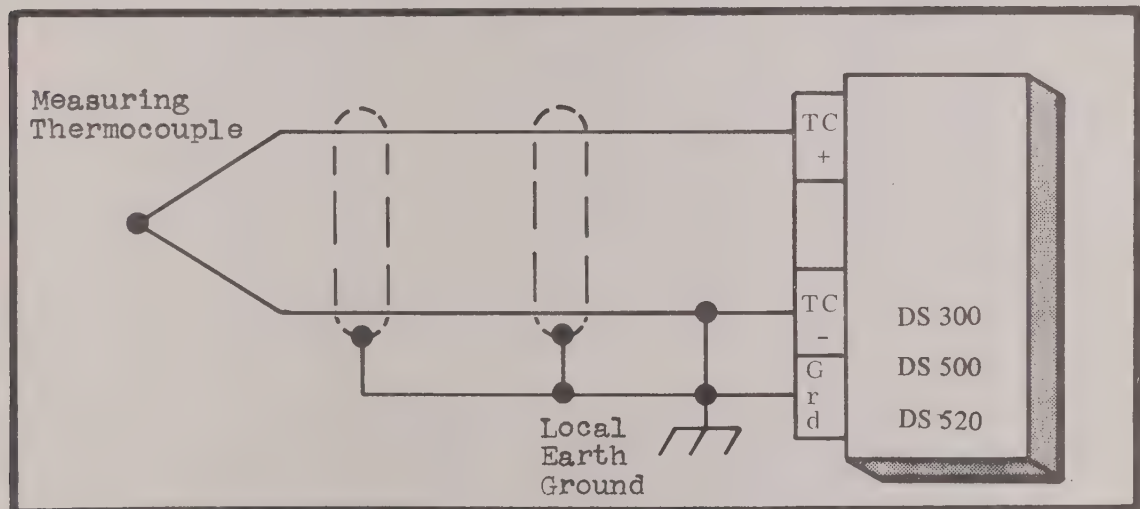

FIG. 2-2 FLOATING THERMOCOUPLE
- b. If the thermocouple is completely floating, the circuit shown in Figure 2-2 will be most advantageous.